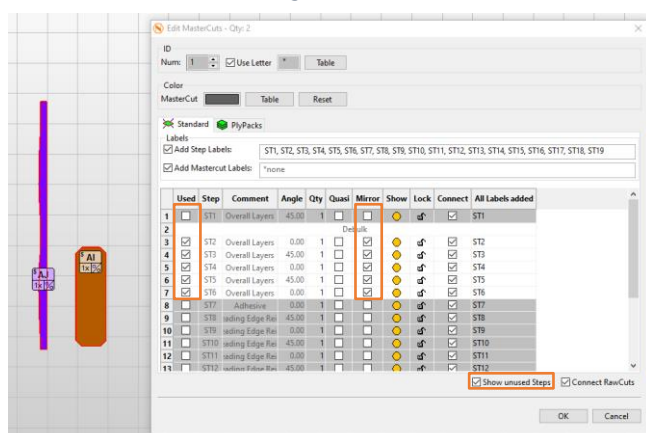

Figure 289
81. Further we have to assign the correct steps to our copied MasterCuts AJ and AI. Therefor, select both of them again, right-click, select **[Edit MasterCuts]** to open the Edit MasterCuts dialog (Figure 289).